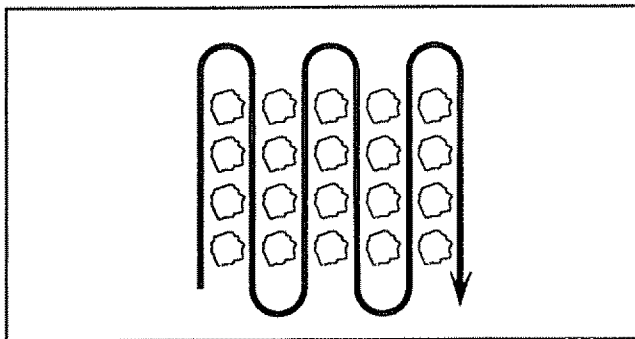

FIGURE 18
- Cultivate up and down the rows at a speed which will allow Tines to uproot weeds and leave the ground in rough condition, promoting no further growth of weeds and grass (Fig. 18).